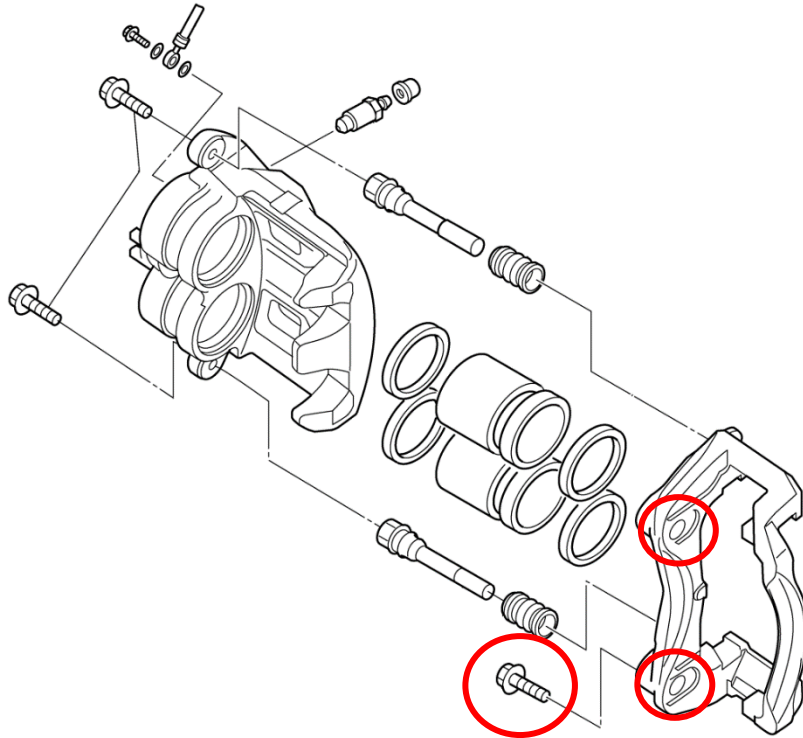

Figure 2
7. Remove the (2) two OE Bolts securing the Brake Caliper to the vehicle. Once removed, remove the OE Brake Caliper and Brake Line assembly from the vehicle. Retain the hardware for the Caliper. *Figure 2.*